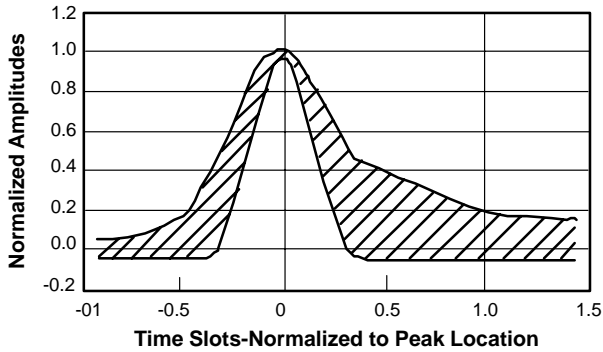
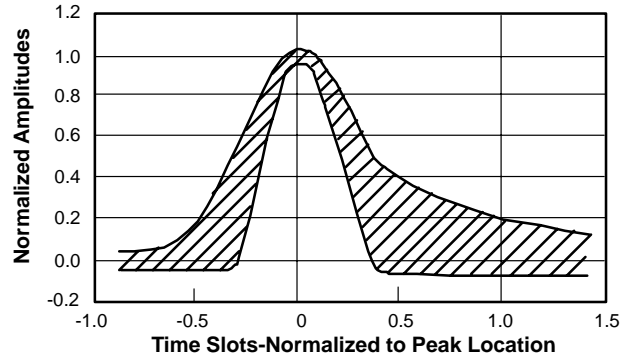

Figure 3. DSX-3 Isolated Pulse Template for ANSI T1.404 Standards
Figure 4. DSX-3 Isolated Pulse Template for Bellcore TR-NWT-000499
Currently, two isolated pulse template requirements exist: the ANSI T1.404 pulse template (*See Table 3 and Figure 3*) and the Bellcore TR-NWT-000499 pulse template. The pulse transmitted by the XR-T7296 meets these templates.
Pulse Shape	An isolated pulse must fit the template in Figure 3 or Figure 4 . ¹ The pulse amplitude may be scaled by a constant factor to fit the template. The pulse amplitude must be between 0.36Vpk and 0.85Vpk, measured at the center of the pulse.
- ¹ The pulse template proposed by G.703 standards is shown in *Figure 4* and specified in *Table 4*. The proposed G.703 standards further state that the voltage in a time slot containing a 0 must not exceed ±5% of the peak pulse amplitude, except for the residue of preceding pulses.
Table 3. DSX-3 Pulse Template Boundaries for ANSI T1.404 Standards (See *Figure 3*.)
Table 4. DSX-3 Pulse Template Boundaries for Bellcore TR-NWT-000499 Standards (See *Figure 4*)